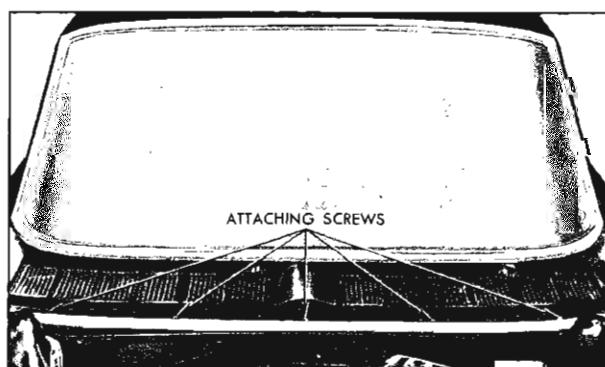

Fig. 11-25 Air Intake Grille
5. To install, apply medium-bodied sealer around screw attaching holes and grille retaining slots (Fig. 11-25).